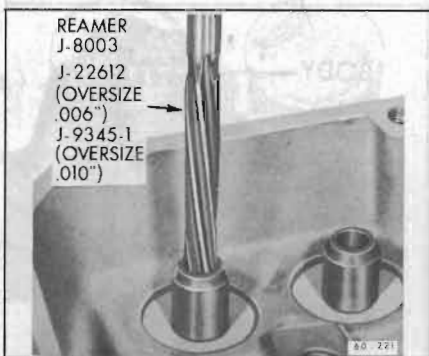

Figure 60-315—Reaming Valve Guide
7. If valve stem has too much clearance in its guide, the guide should be reamed to .006" oversize using J-22612, and then to .010" oversize using reamer J-9345-1. See Figure 60-315.